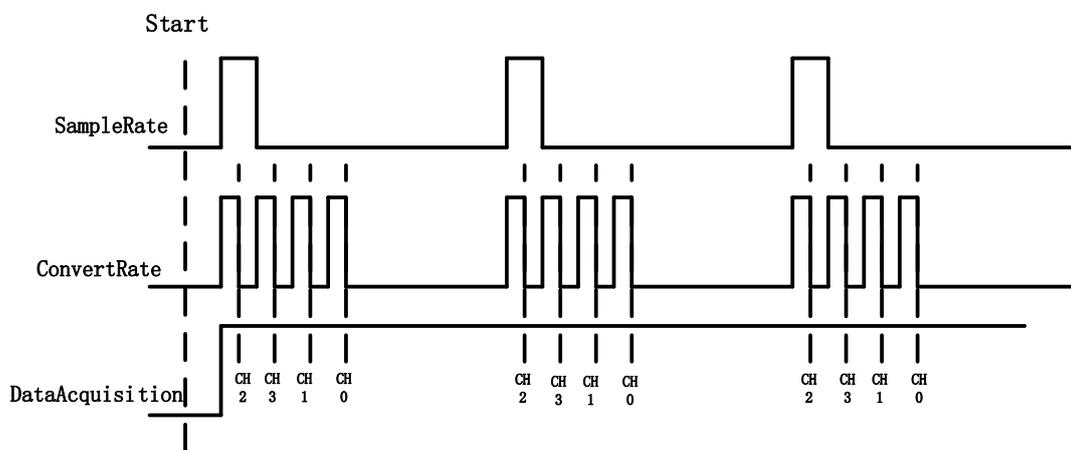

Figure 2 Sample Rate and Internal AD Conversion
*Channel Count*: how many channels you want to collect data. You can set up the channels in different orders, for instance 2,3,1,0. The acquired data will be arranged in the way you specify as shown in Figure 2. In this particular case, *Channel Count* is 4.